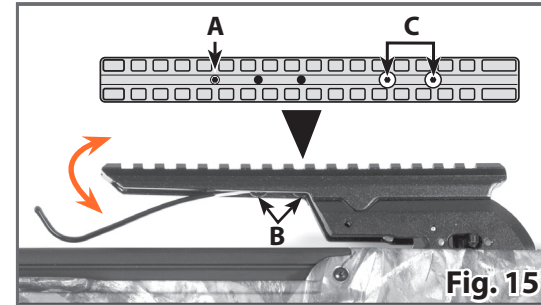

Fig. 15
- If Retention Spring is not holding the arrow/bolt firmly onto the rail, the tension of the Retention Spring can be tightened or loosened by turning the Retention Spring Adjustment Set Screw (Fig. 15 A).
- Remove the two screws from the top of the picatinny rail (Fig. 15 C)
- Remove the two screws on the bottom of the picatinny rail holding the retention spring in place (Fig. 15 B)